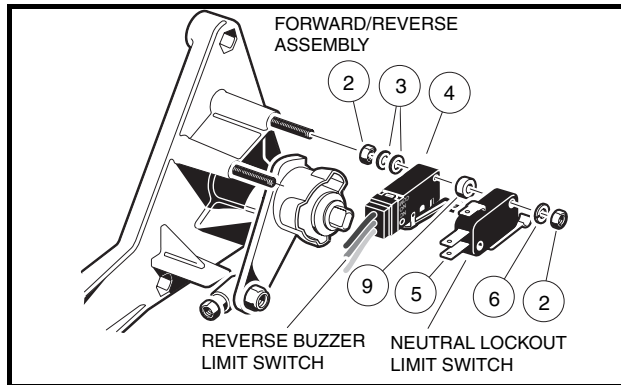

Figure 12-18 Neutral Lockout and Reverse Buzzer Limit Switches
2. Disconnect the wires from the neutral lockout limit switch (5) located on the back of the Forward/Reverse shifter assembly (**Figure 12-18, Page 12-18**).
3. Remove two nuts (2) and washers (6) from the neutral lockout limit switch (5) and slide the neutral lockout limit switch off of the screws.
1. Install the neutral lockout limit switch (5) with two washers (6) and two nuts (2) (**Figure 12-18, Page 12-18**). Tighten to 5 in-lb (0.6 N·m). Place the Forward/Reverse handle in REVERSE to make sure that both switches actuate. **See following CAUTION.**
2. Disconnect the wires from the reverse buzzer limit switch (4) located on the back of the Forward/Reverse assembly (**Figure 12-18, Page 12-18**).
3. Remove the nuts (2) and washers (6) from the neutral lockout limit switch (5) and slide the neutral lockout limit switch off of the screws. Do not disconnect the wires.
4. Remove the spacers (9) from the reverse buzzer limit switch (4) and slide the reverse buzzer limit switch off the screws.
1. Install the reverse buzzer limit switch (4), and then install two spacers (9) against the limit switch (**Figure 12-18, Page 12-18**).
2. Install the neutral lockout limit switch (5) with two washers (6) and two nuts (2). Tighten to 5 in-lb (0.6 N·m). **See following CAUTION.**
4. Connect the orange wire to the common (COM) terminal and the red/white wire to the normally open (NO) terminal of the reverse buzzer limit switch (4) (**Figure 12-18, Page 12-18**).